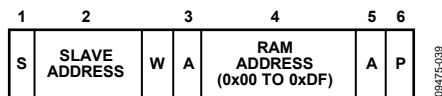
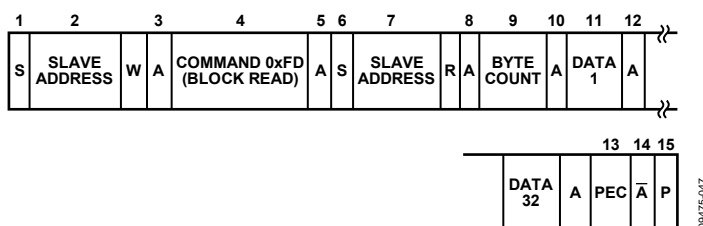

Figure 39. Setting a RAM Address for Subsequent Read
Figure 47. Block Read from the EEPROM or RAM with PEC
The SMBus specification defines several protocols for different types of read and write operations. The following abbreviations are used in Figure 39 to Figure 47:
- To write a register address to the RAM for a subsequent single byte read from the same address, or for a block read or a block write starting at that address, as shown in Figure 39.
An example of a block read with the optional PEC byte is shown in Figure 47.